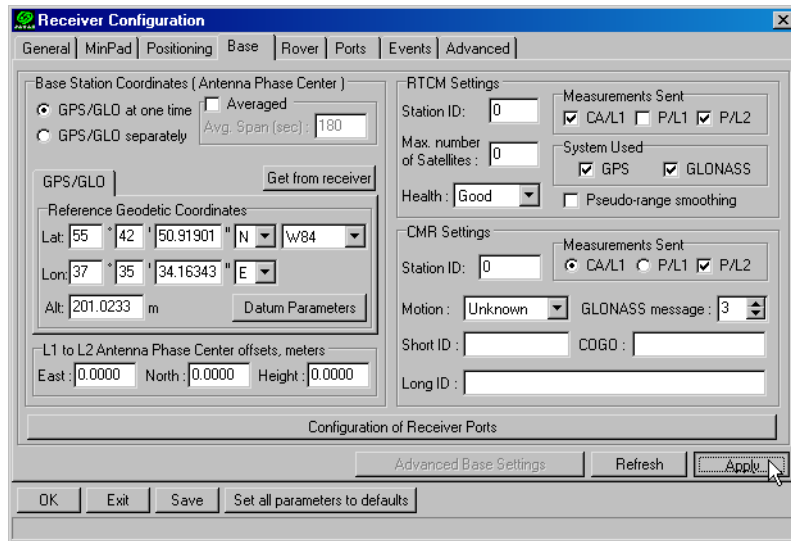

Figure 3-11. Base Tab Configuration
10. Select the **Base** tab and set the following parameters (Figure 3-11 on page 97):